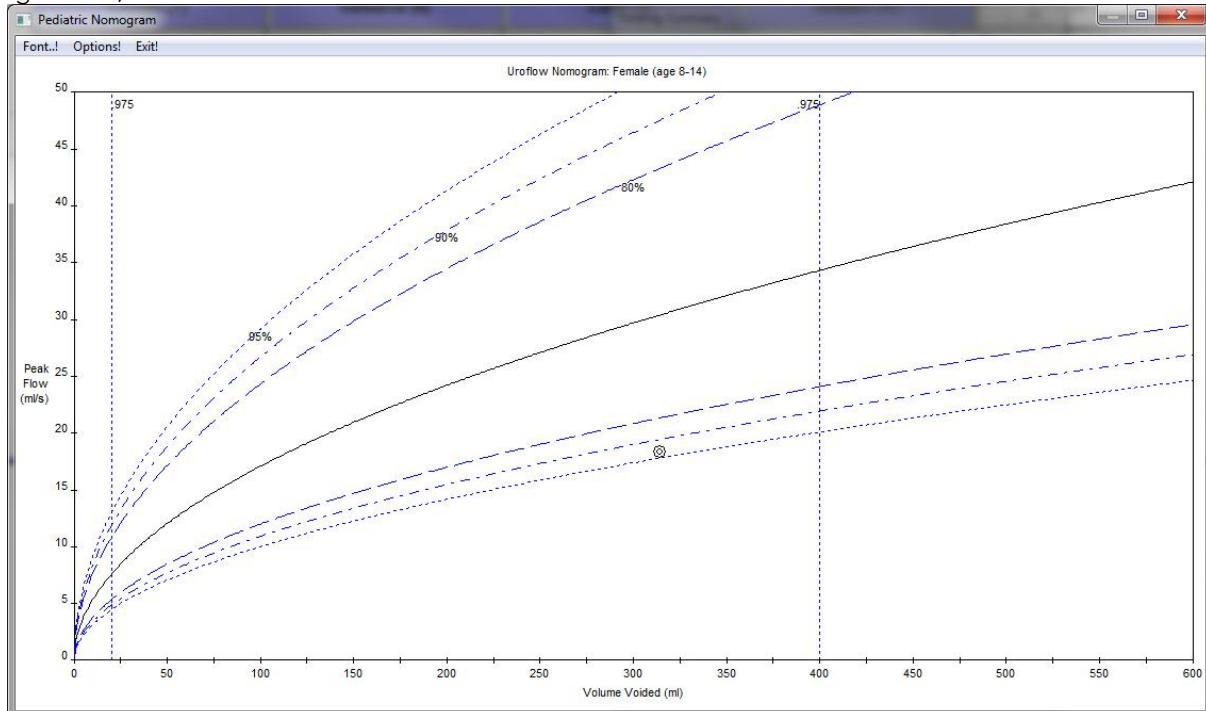

Figure 114: Pediatric Nomogram Window
1. Click Pediatric Nomogram in the Voiding Summary window. The **Pediatric Nomogram** window will appear (Figure 114).